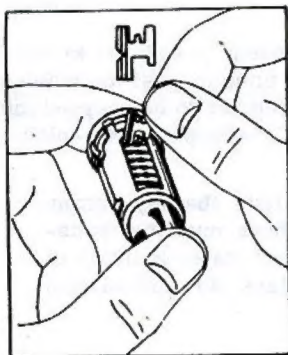

Fig. 12—Inserting Tumblers
1. Hold cylinder with head of cylinder away and, starting at the head of the cylinder, insert the tumblers in their proper slots in the order called for by the code; ribbed side toward you and long point down (fig. 12).